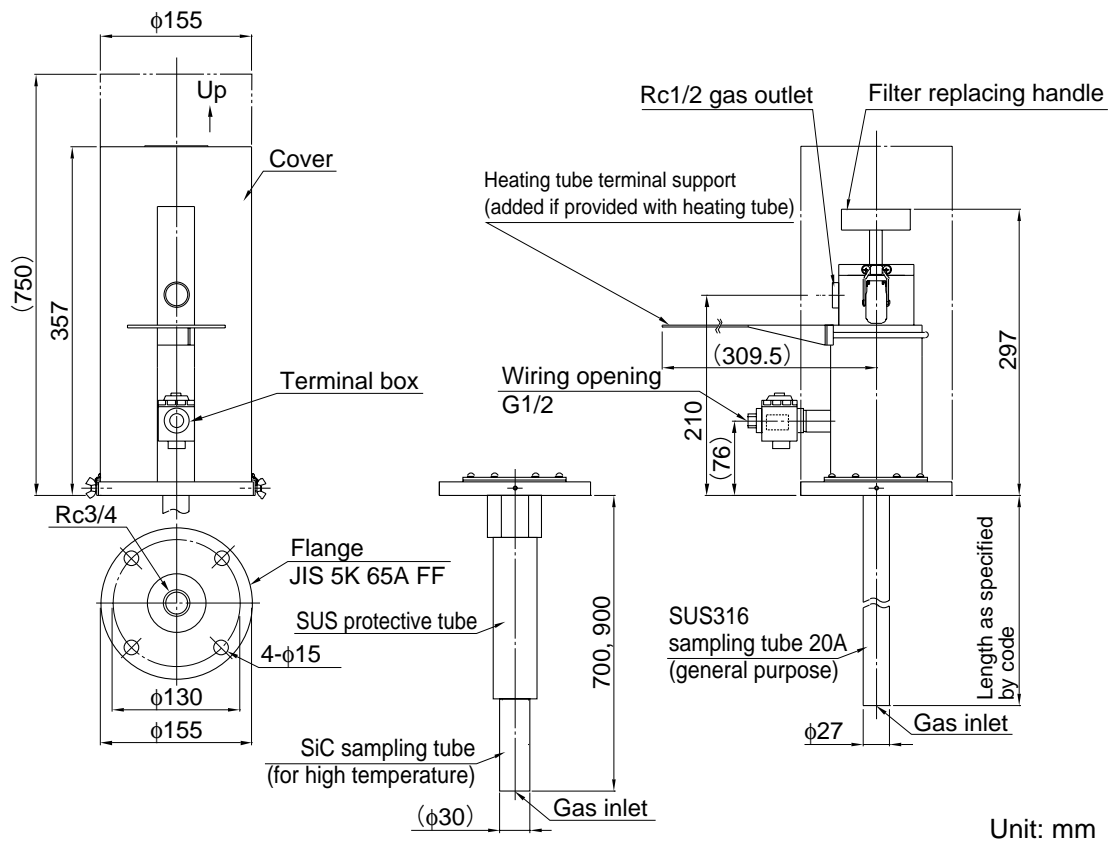
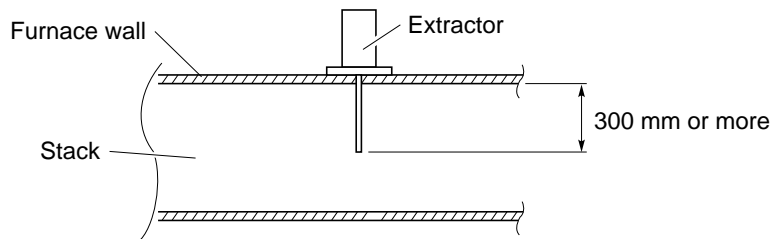

Fig. 1-4
Fig. 1-6 Position of sampling tube
- (3) Install the extractor so that the tip of sampling tube is located at the center of stack (separated more than 300 mm from the wall). A provision should be made to prevent aspiration of leak air as shown in Fig. 1-6. For high temperature device, install so that SUS protective tubes are not placed in the high temperature furnace. (see Fig. 1-4.)
- (4) Position the supplied packing under the flange beforehand.